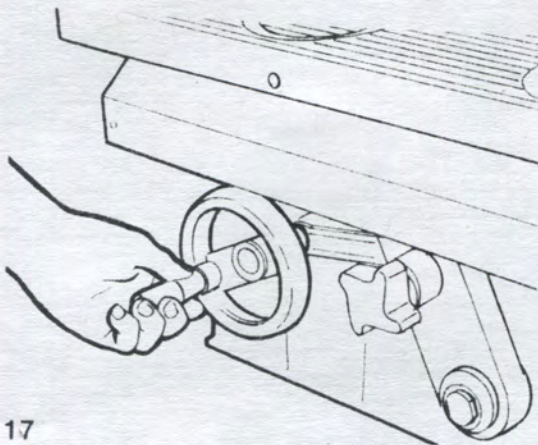
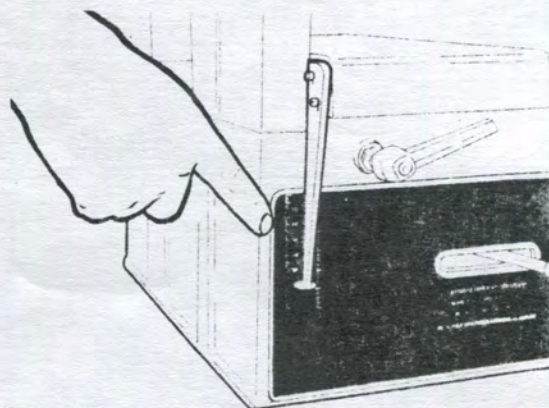

Fig. 17
Fig. 18
The height of the thickener table can be adjusted by turning the handwheel (**Figure 17**) and it can be read directly on the graduated scale (**Figure 18**).
**NOTE:** If the pointer (**Figure 18**) does not give the correct reading it can be adjusted by loosening the screws that anchor it to the thickener table.